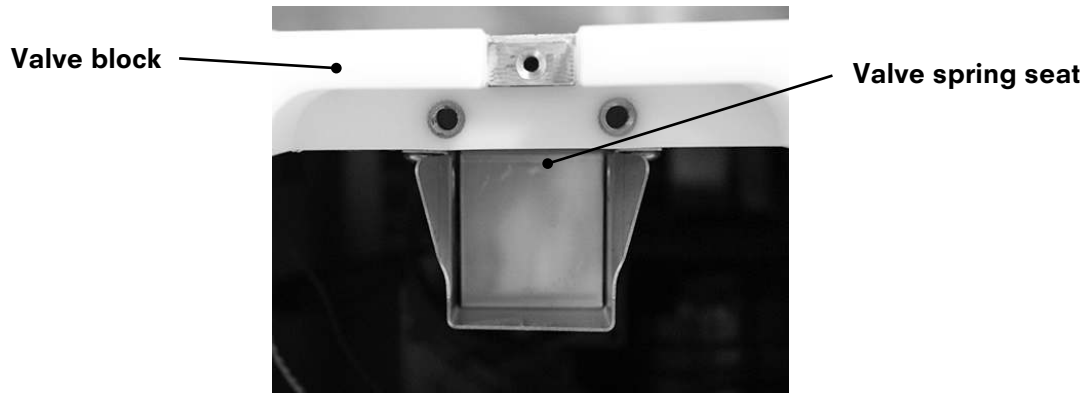

Figure 3
15. Carefully wipe around the valve spring seat area and valve block with a clean, damp cloth (see Figure 3).